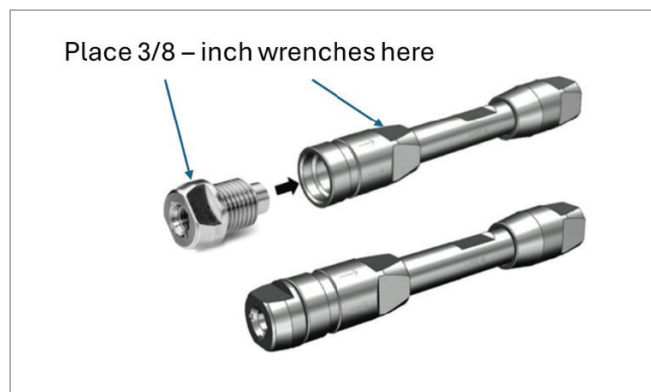

Figure 3. Recommended $\frac{3}{8}$ " wrench placement to remove the VanGuard FIT Cartridge from the ACQUITY Premier VanGuard FIT Column.
2. The VanGuard FIT Cartridge is designed specifically for ACQUITY Premier Columns. For the ACQUITY Premier Columns that have a VanGuard FIT Cartridge, the VanGuard FIT Cartridge may be replaced using two $\frac{3}{8}$ -inch wrenches. Simply apply the wrenches to the flats on the guard and column end nut and turn in a counterclockwise direction (see Figure 3) to remove the guard cartridge.